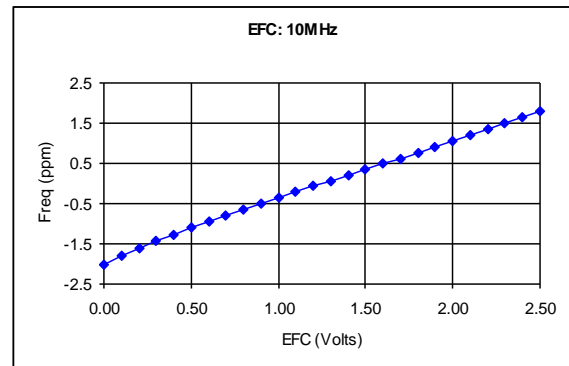

Figure 6
- Electronic Frequency Control (EFC):** This option offers frequency adjustment with input voltage at pin #1. The EFC is positive and monotonic as shown in Figure 6. This option will allow the end user to adjust the output frequency closer to the nominal frequency or to correct for long term aging. A low noise internal voltage reference (Vref) is offered with this option for biasing a voltage divider resistor network or DAC to control the EFC input. Using a noisy voltage reference to control the EFC input can degrade phase noise or ADEV performance.